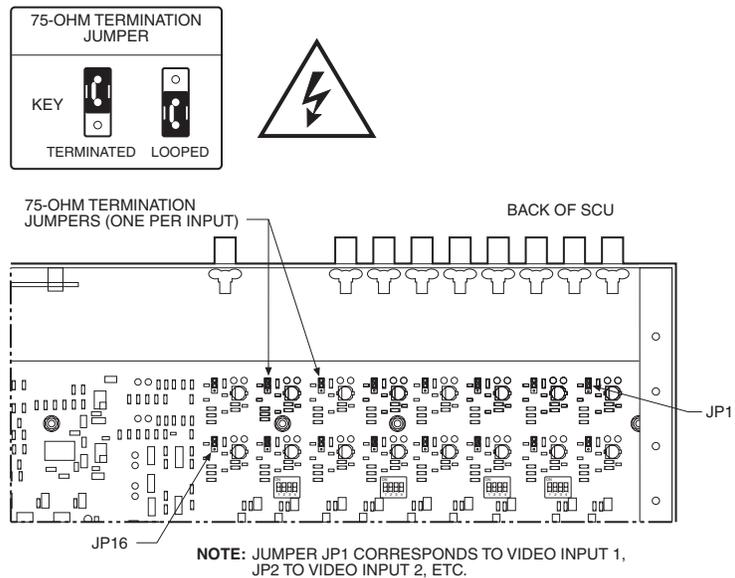

Figure 5. Video Termination Jumpers
2. Refer to Figure 5. Set jumpers according to your system requirements. JP1-JP16 are used to terminate the video input with a 75-ohm resistor or to unterminate the video (looping). The factory default has the jumper installed in the terminating position. If you are connecting only a camera to an input, leave the jumper in the terminating position. If you are looping the video to another device, move the jumper to the looped position, and terminate at the equipment connected to the looping output.